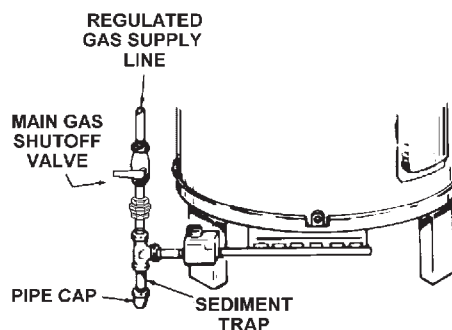

FIGURE 21.
To trap any dirt or foreign material in the gas supply line, a sediment trap must be incorporated in the piping (see Figure 21). The sediment trap must be readily accessible and not subject to freezing conditions. Install in accordance with recommendations of serving gas suppliers. Refer to the latest version of the National Fuel Gas Code.
1. For test pressures exceeding 1/2 psi (3.45 kPa) disconnect the water heater and its Main Gas Shutoff Valve from the gas supply piping system during testing, see Figure 21. The gas supply line must be capped when disconnected from the water heater.